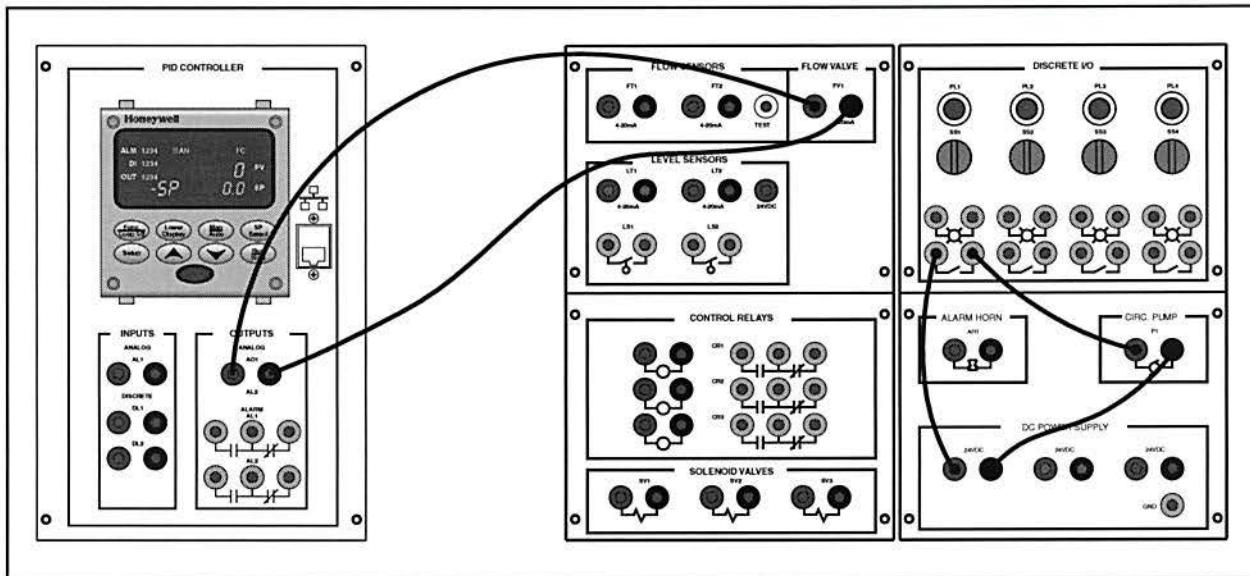

Figure 47. Flow Circuit
- F. Connect the circuit shown in figure 47.